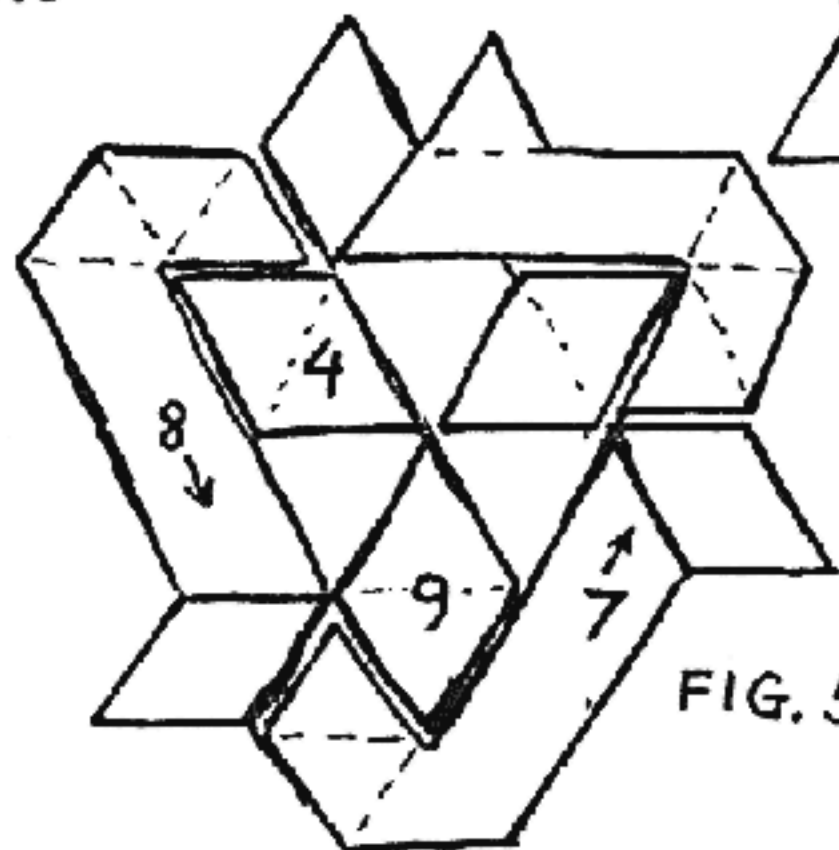

FIG. 5
position, as shown in Fig. 5
5. Drop piece D down, push piece A in, and slide piece M one inch to the right in order to install piece I vertically. With piece I dropped all the way down, return piece A, then piece M and raise all vertical pieces into position as shown in Fig. 5.